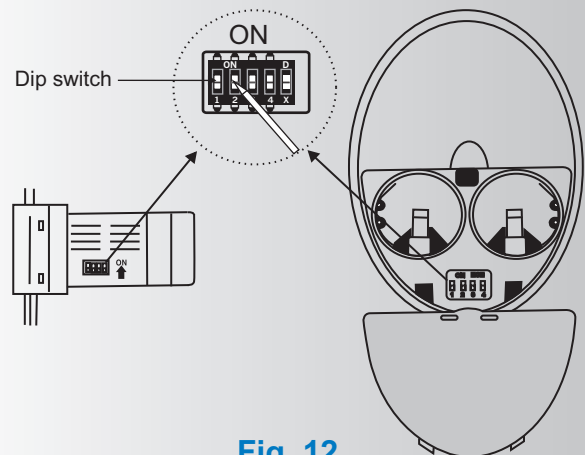

Fig. 12
**NOTE:** In the Transmitter, Set Dip Switch #5 on the D position. This enables the dimming function because your ceiling utilizes Incandescent lamps that are dimmable. (See Fig.12)
**NOTE:** The CoolTouch™ Control System is equipped with 16 possible frequency combinations to prevent interference from or with other remote control units. The frequency switches on your receiver and transmitter have been preset at the factory. Please recheck to make sure the switches on transmitter and receiver are set to the same position, any combination of settings will operate the fan as long as the transmitter and receiver are set to the same position. (Fig. 12)